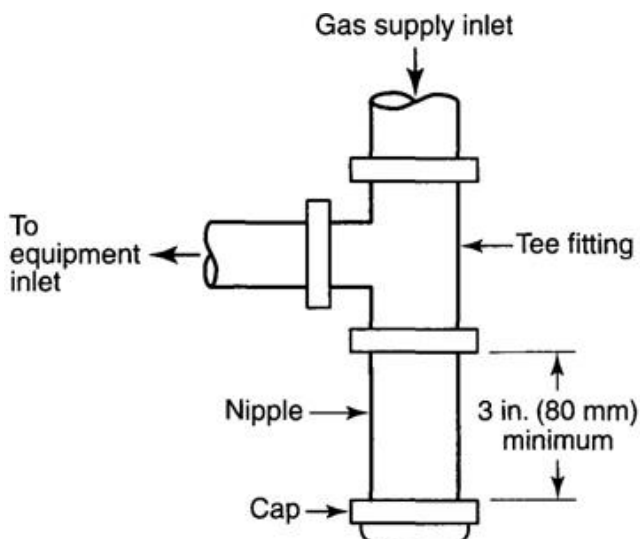

Figure 12-1 Sediment Trap
- Where a sediment trap is not already a part of the water heater, a sediment trap shall be installed downstream of the shutoff valve as close to the inlet of the water heater as practical during installation. See figure 12-1 for a method of installation.